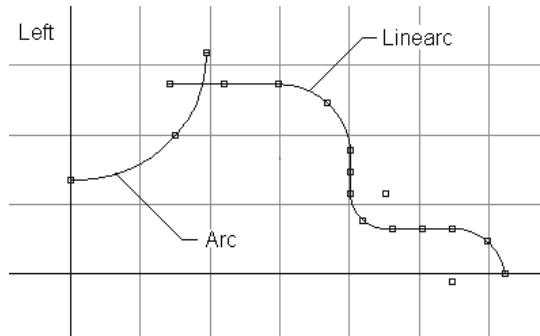

Figure 7-51 Profiles for creating base feature
3. Choose the **Line-arc** button from the **Keypoint Curve Toolbox** and create the profile, as shown in Figure 7-51.
4. Choose the **Arc (three point)** button from the **Keypoint Curve Toolbox** and create the profile, refer to Figure 7-51.